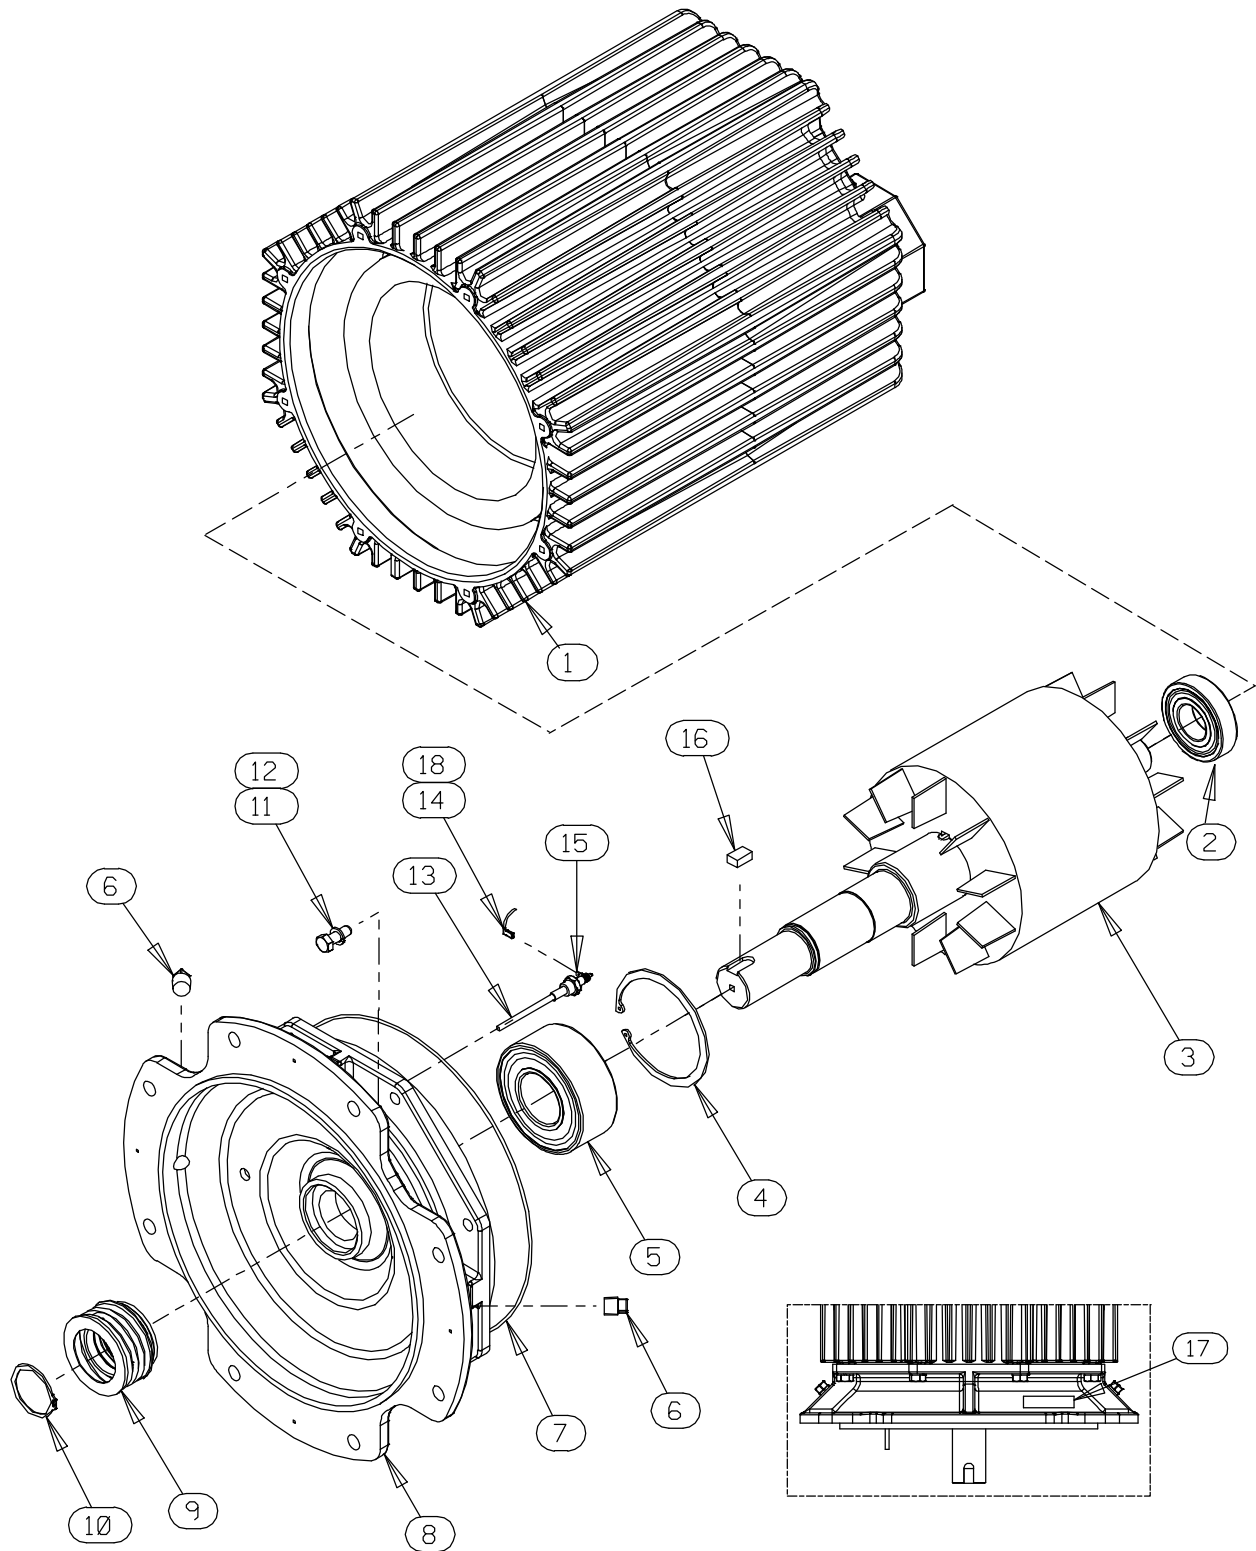

Figure E-2. Motor Assemblies
#### (Figure E-2)
To remove the impeller, use two thin-bladed screwdrivers positioned 180° apart to pry on the back of the impeller and “walk” the impeller off the shaft. Use increasingly larger screwdrivers (or wedges) as necessary. After the impeller comes free of the shaft, retain the impeller key (16, Figure E-2).
*An alternate method of removing the stationary element is to remove the screws (11) securing the seal plate (17) to the motor assembly (20). Pry the assembled seal plate and stationary element off the shoulder of the intermediate (8, Figure E-2). Remove the O-ring (16) and press the stationary element and seat out of the seal plate from the back side.*
#### (Figures E-2 and E-3)